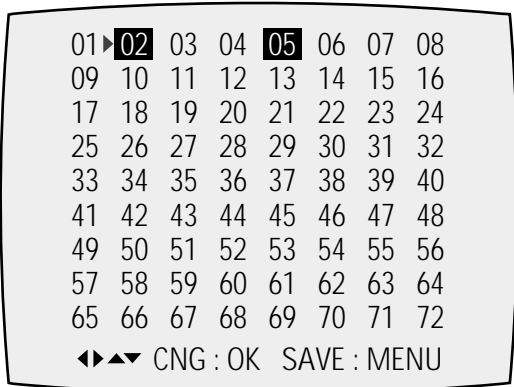

Fig. 5-14
- 2) Press the “MENU” button on the remote control about 5 seconds then option setting display is appeared. (See Fig. 5-14)
- 4) If selecting the option number is completed, press the “OK” button of remote control. (If “OK” button is pressed, the selected number is changes reversed color. ; See Fig. 5-14)